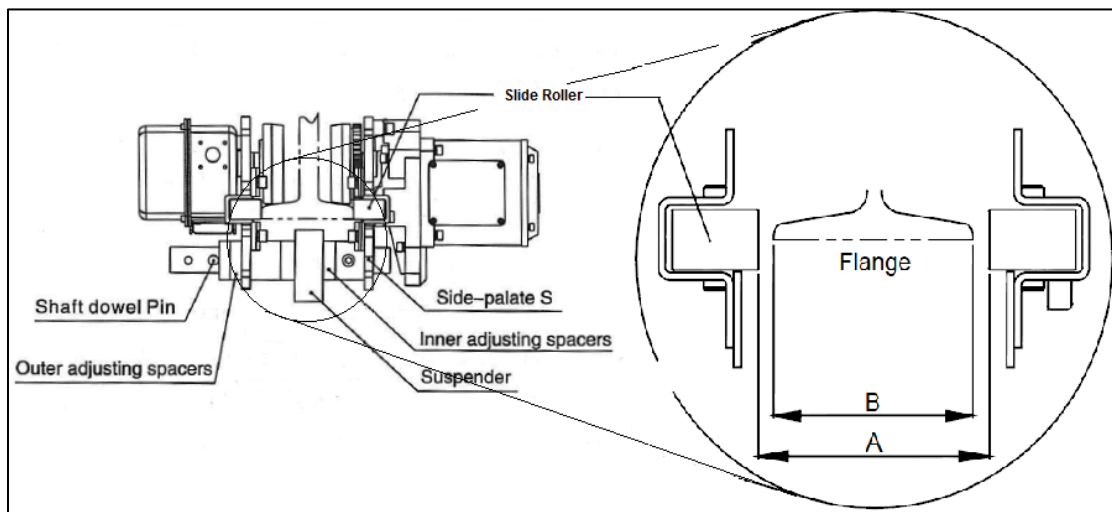

Figure 5.2.1.7
7. Make sure both side plates are spread fully outward and measure dimension "A". Dimension "A" must be $5/32$ " (4 mm) greater than "B" (refer to Figure 5.2.1.7).